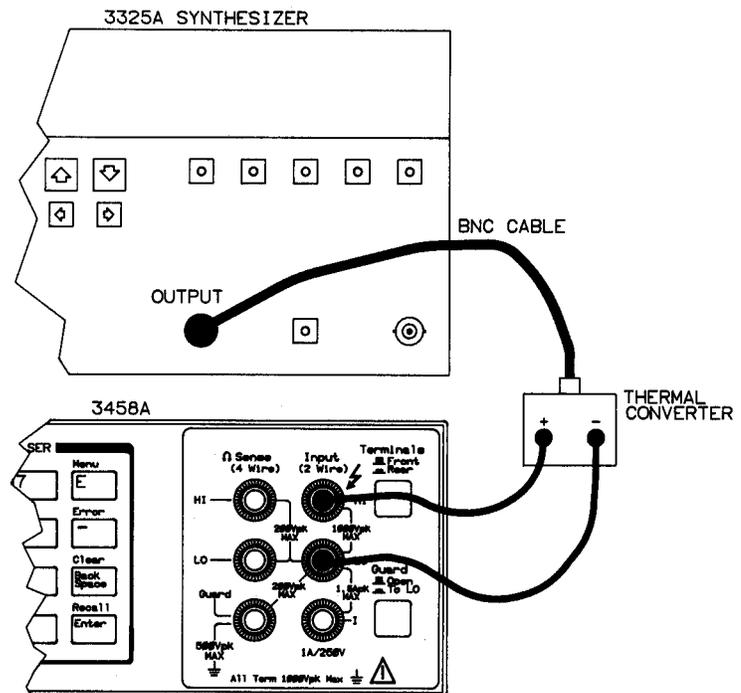

Figure 4. Characterizing the Adjustment Setup
- Set the synthesizer to deliver a 3V rms sinewave at a frequency of 100 kHz. Connect the synthesizer, the 3V thermal converter, and the multimeter as shown in Figure 4. Record the exact DC voltage measured by the multimeter on Line A of the Adjustment Record.